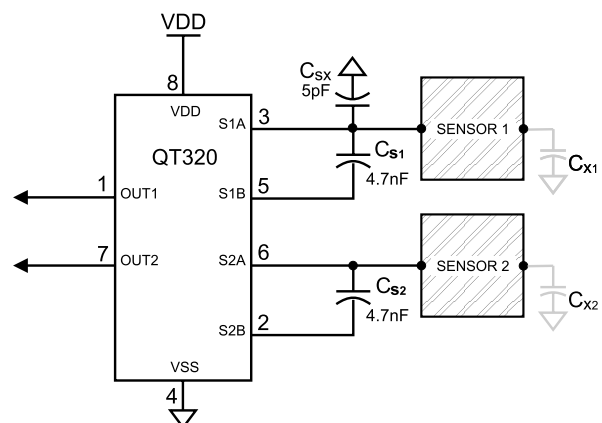
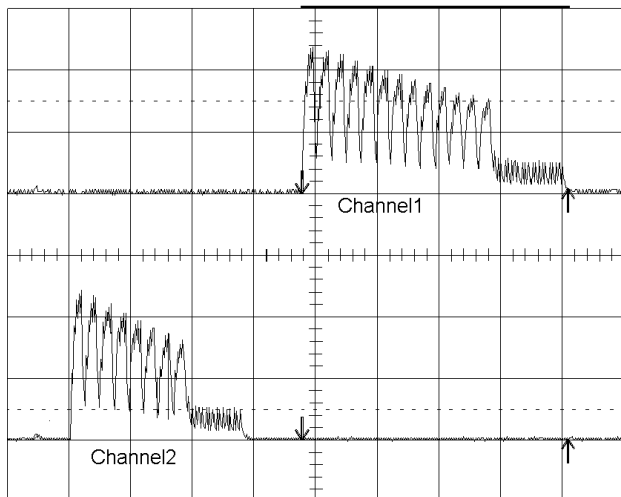

Figure 1-6 Circuit with C_{sx} gain equalization capacitor
Figure 1-7 Burst lengths without C_{sx} installed
The acquisition process occurs in bursts (Figure 1-7) of variable length, in accordance with the single-slope CDC method. The burst length depends on the values of Cs and Cx. Longer burst lengths result in higher gains and more sensitivity for a given threshold setting, but consume more average power and are slower.
2. Connect a small capacitor (~5pF) between S1a or S1b (either Channel 1 pin) and circuit ground (C_{sx} in Figure 1-6), this will increase the load capacitance of Channel 1, thus balancing the sensitivity of the two channels (see Figures 1-7, 1-8).
Since the actual burst length is proportional to sensitivity, you can use an oscilloscope to balance the two channels with more accuracy than by empirical methods (See Figures 1-7 and 1-8). Connect one scope probe to Channel 1 and the other to Channel 2, via large resistors (750K ohms) to avoid disturbing the measurement too much, or, use a low-C FET probe. The C_{sx} balance capacitor should be adjusted so that the burst lengths of Channels 1 and 2 look nearly the same.